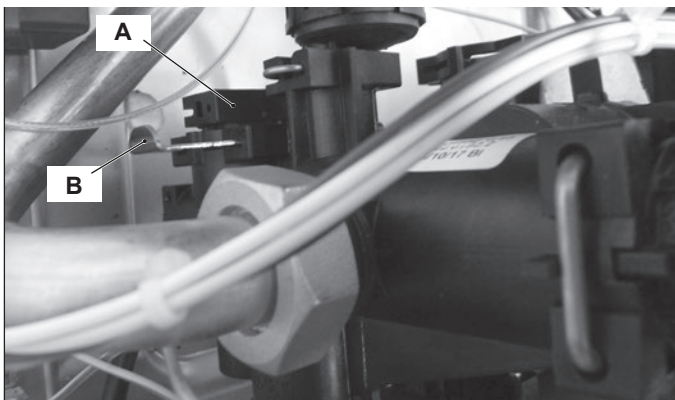

Figure 16.2
- 3 Remove the locking plate "B" and pull up the by-pass valve "A" (Figure 16.2).
- 4 Reassemble the by-pass valve as illustrated in Figure 16.2 reversing the order of removal.